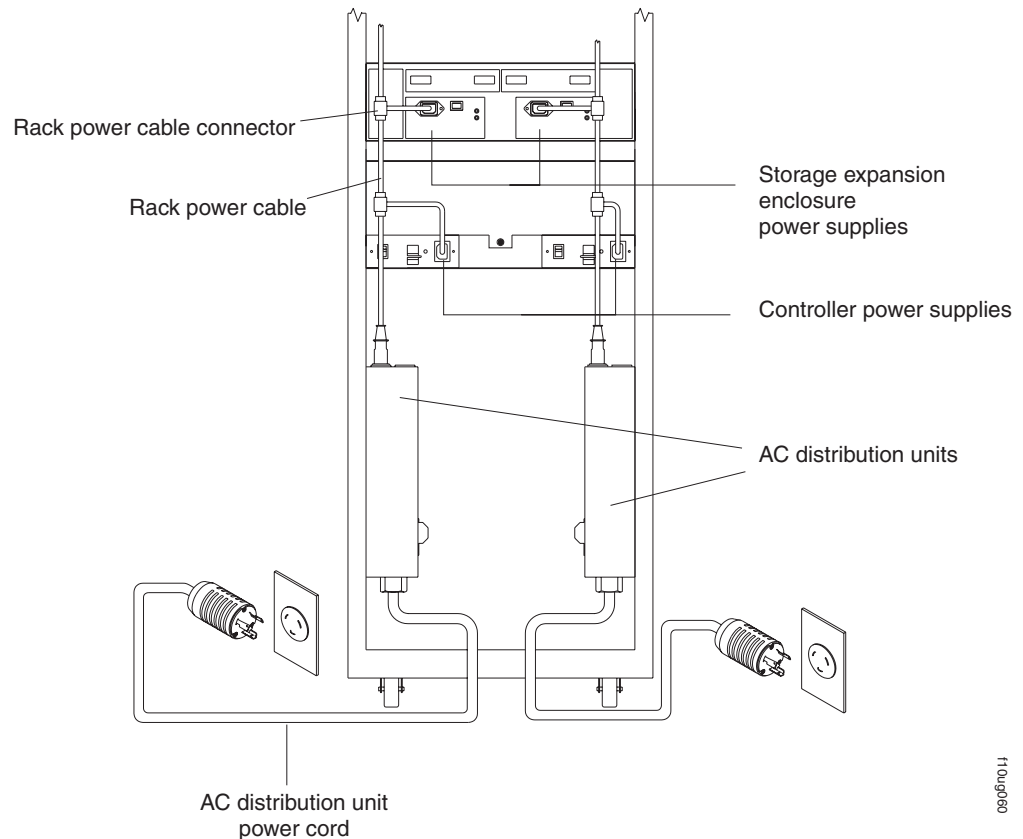

Figure 55. Redundant AC power connections to controllers and storage expansion enclosures
See Figure 55 on page 65 for an example of redundant power cabling.
- **DS4100 base storage subsystem only:** To maintain power redundancy, plug the storage subsystem's right and the left power supplies into two independent external power circuits through ac distribution units inside a rack cabinet or directly into external receptacles. Similarly, the right and left power supplies of the DS4000 storage expansion enclosures attached to the DS4100 should be plugged into the same two independent external power circuits as the DS4100. This ensures that the DS4100 and all its attached storage expansion enclosures will have power if only one power circuit is available. In addition, having all the right or all the left power supplies plug into the same power circuit will enable the components in the storage subsystem to power on simultaneously during an unattended restoration of power. See Figure 55 on page 65 for an example of redundant power connections.